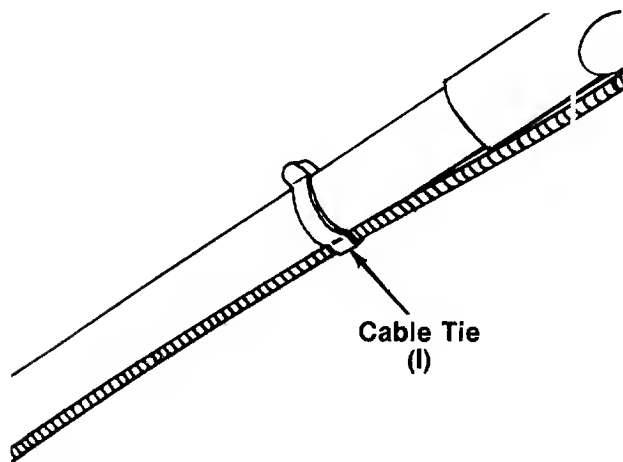

FIGURE 7.
11. Secure throttle control cable and brake cable to upper and lower handles with cable ties (l). See figure 7.